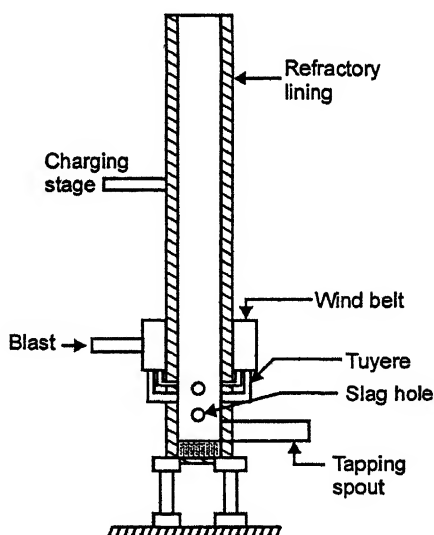

Fig. 8.23. Cupola.
**Construction and working :** Refer to Fig. 8.23.